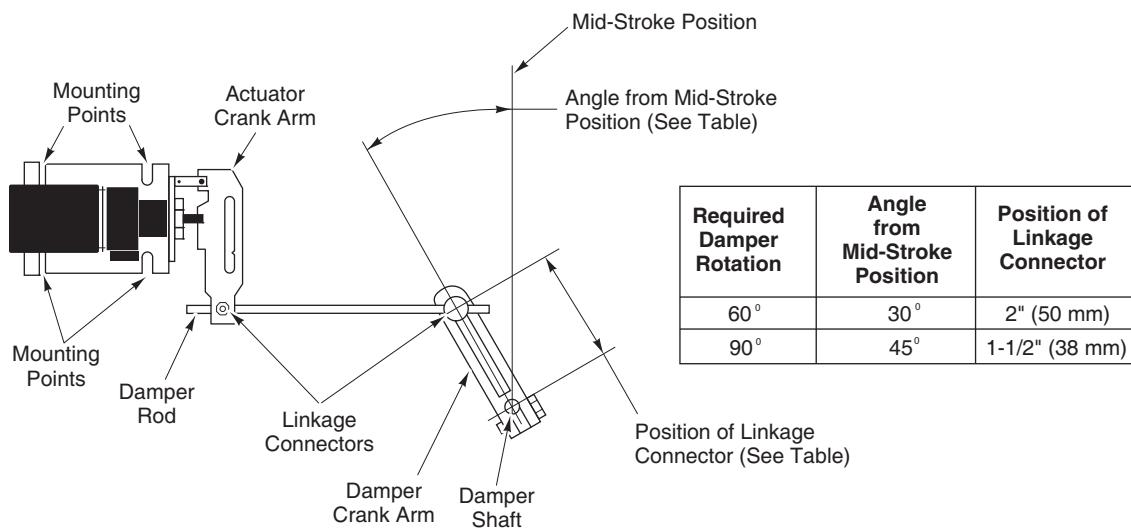

Figure-15 Actuator/Damper Mounting.
- c. If possible, select a mounting position such that, at mid-stroke, the actuator crank arm and the damper crank arm on the drive shaft are each at a 90° angle to the damper rod (refer to Figure-15). This is the recommended mounting position. It may be necessary to swivel the actuator linkage to arrive at this mounting location.
4. Mount a ball joint connector in the slot on the damper crank arm. To achieve 90° of damper rotation, position the connector 1-1/2" (38 mm) from the centerline of the shaft hole on the crank arm. For 60° of damper rotation, position the connector 2" (50 mm) from the shaft hole centerline. Typically, 60° to 70° of rotation (maximum is 90°) is sufficient to permit almost maximum air flow through the dampers. Refer to Figure-15.
5. Rotate the damper to its open position. Install and secure the damper crank arm (with ball joint connector) to the damper shaft, positioning the crank arm as follows (refer to Figure-15):